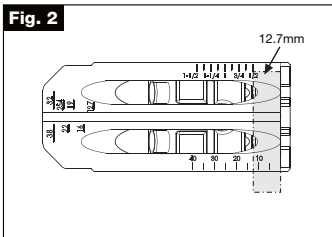

Fig. 3
- Setting the drill bit depth - (Fig. 3 & 3a)